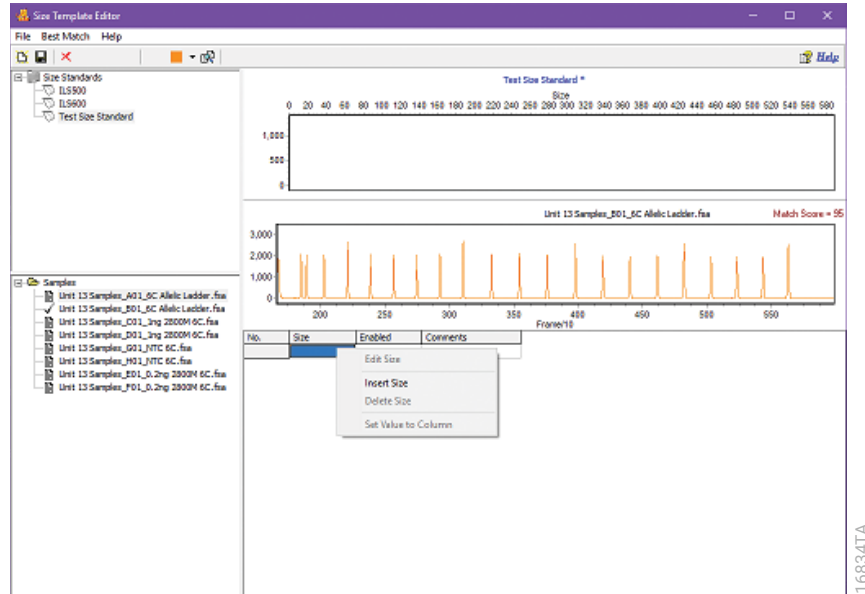

Figure 133. Inserting a fragment size in the Expected Size Standard Table.
1. To add expected size standard fragments to the size standard template from the Expected Size Standard Table, right-click anywhere in the table, and select **Insert Size** (Figure 133).